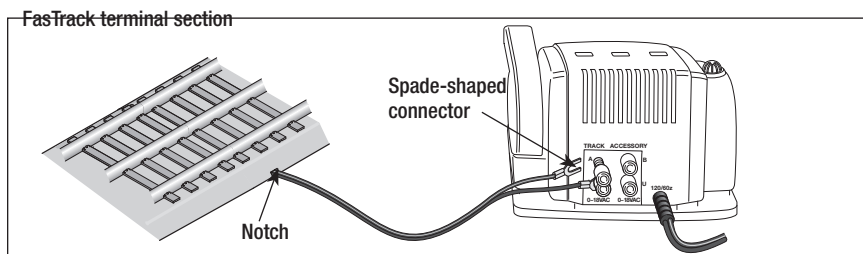

Figure 3. Transformer connections
If you are using the Lionel FasTrack track system, you will find that the terminal section easily connects to the transformer's TRACK posts. Two wires are attached to the underside of the FasTrack terminal section (available separately, 6-12016). Attach the spade-shaped connectors at the ends of these wires to the CW-80 Transformer. Be sure that the connections are secure. Follow these steps and refer to Figure 3.
1. **Feed the wires through the notch in the FasTrack terminal section.** Refer to Figure 3.